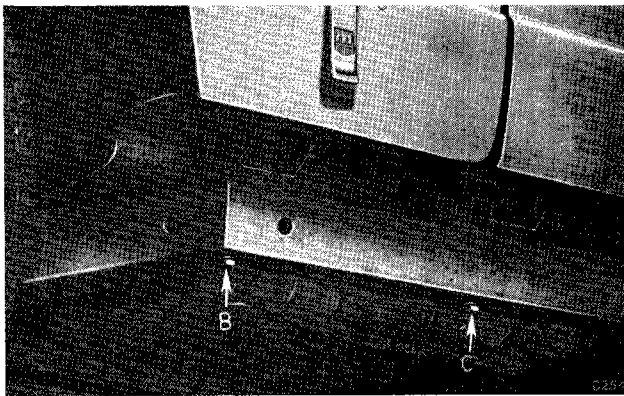

Fig. 3. Front floor to side channel mounting bolt
- eight at frame side channel, adjacent to sill panels (B), (C), (E), (F) (Figs. 3 and 4);
- six at frame intermediate outrigger, through front and rear floor (D);
- four at frame rear extension, through luggage floor (J) and (K).